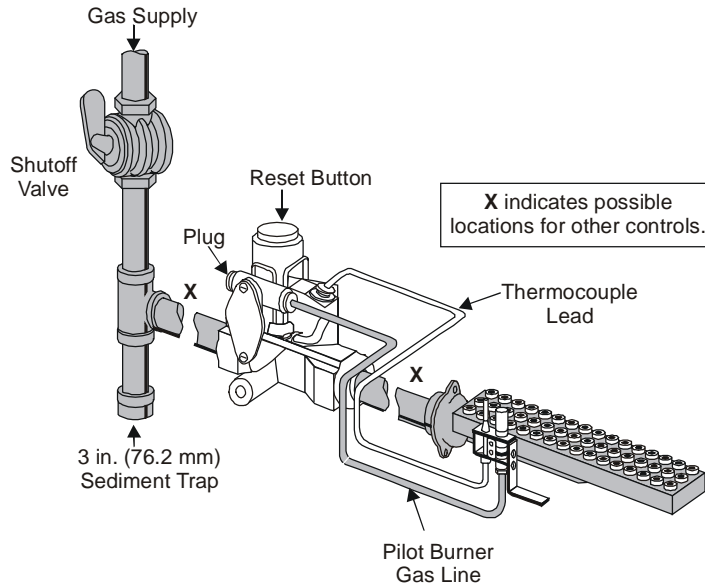
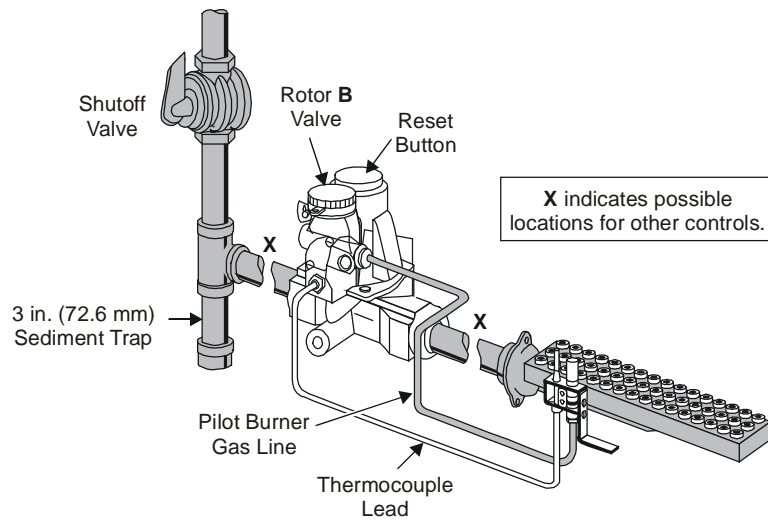

Figure 1: Typical Installation of an H15 Valve with Internal Pilot Gas Flow (Models H15_A and H15_B)
Figure 2: Typical Installation of an H15 Valve with Internal Pilot Gas Flow and Rotor "B" Valve (Models H15_H)
4. Mount the valve to the pipework. The H15 valve may be mounted in any convenient position. Use an approved pipe joint sealing compound on the male threads before assembly. Remove excess compound after mounting the valve to the pipework. Threads of the pipe and nipples must be smooth and free of tears and burrs. Steam clean all piping to remove foreign substances such as cutting oil or thread chips. A sediment trap should also be installed in accordance with the National Fuel Gas Code (ANSI Z223.1). (See Figure 1 and Figure 2.)
On internal pilot gas valve models, plumb the pilot burner fitting to either of the pilot gas ports on the valve. Plug the unused pilot gas port on the gas valve. **See Figure 1 and Figure 2.**